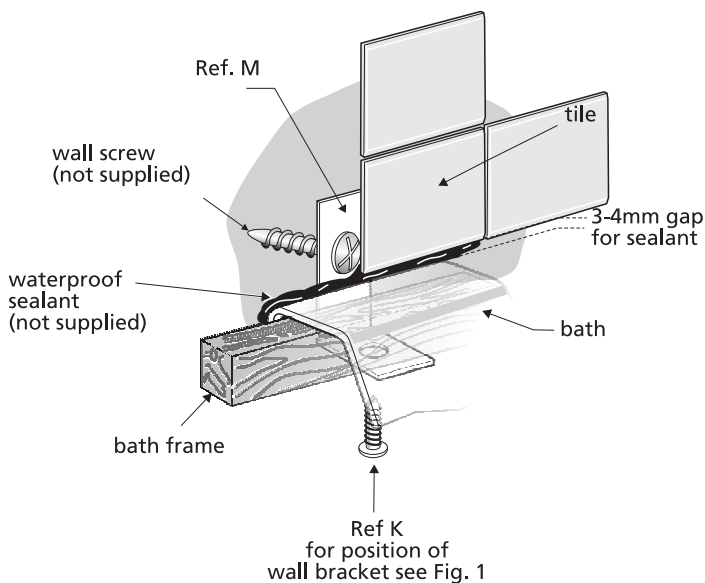

Fig. 6
8. Fit the two wall fixing brackets (M) to bath frame as indicated in Fig. 6 and Fig. 1. Pilot drill holes ($\varnothing 3\text{mm}$) in frame before fixing brackets.
14. Tile down to the height of the bath rim leaving a 3-4mm gap for waterproof sealant, see Fig. 6. An extruded sealing strip can be used for the bath to wall joint as an alternative to waterproof sealant. Protect bath during tiling.